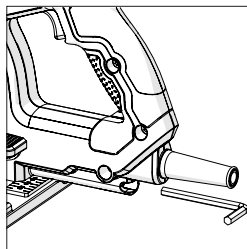

Fig. 1
- Locate the supplied Blade Change Hex Key, which is housed in the onboard storage facility **(18)** (**Fig.1**)